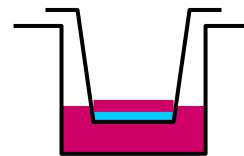

Figure 5
- Change the media without disturbing the hydrogel. As the gelled BD PuraMatrix is difficult to see, this is best accomplished by removing approximately 2/3 of the media above the hydrogel with a P200 pipetter and keeping the tip above the bottom of the insert (**Figure 5**). DO NOT USE A VACUUM to aspirate media from above the hydrogel as it will disturb the BD PuraMatrix scaffold and cells.